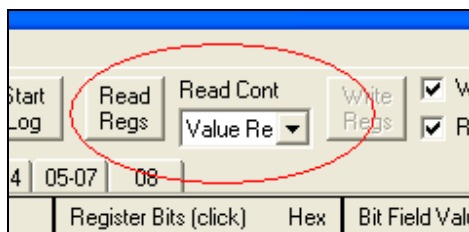

Figure 6 – “Read Cont” field
5. To choose a continuous register update, set the “Read Cont” field at the top of the software to ‘All Regs’ or ‘Value Regs’ (figure 6). To manually read the registers, set this field to ‘OFF’ and push the “Read Regs” button for every read.